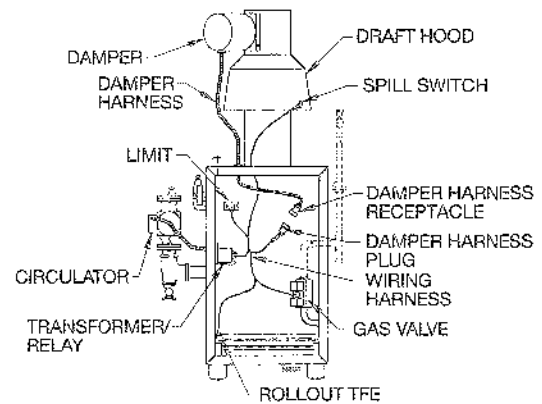

Figure 3
4. Install damper harness between damper actuator and knock-out in jacket top panel. Use strain relief connectors and locknuts to secure both ends of damper harness. See Figure 3.
5. Plug damper harness receptacle into damper harness plug. See Figure 3.